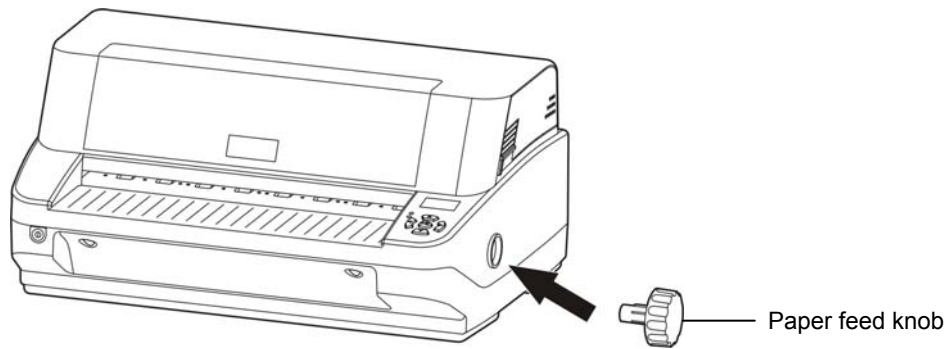

Figure 2-5 Installing the Paper feed knob
1. Insert the paper feed knob into the fixing hold on the right on the printer (Show as figure 2-5).